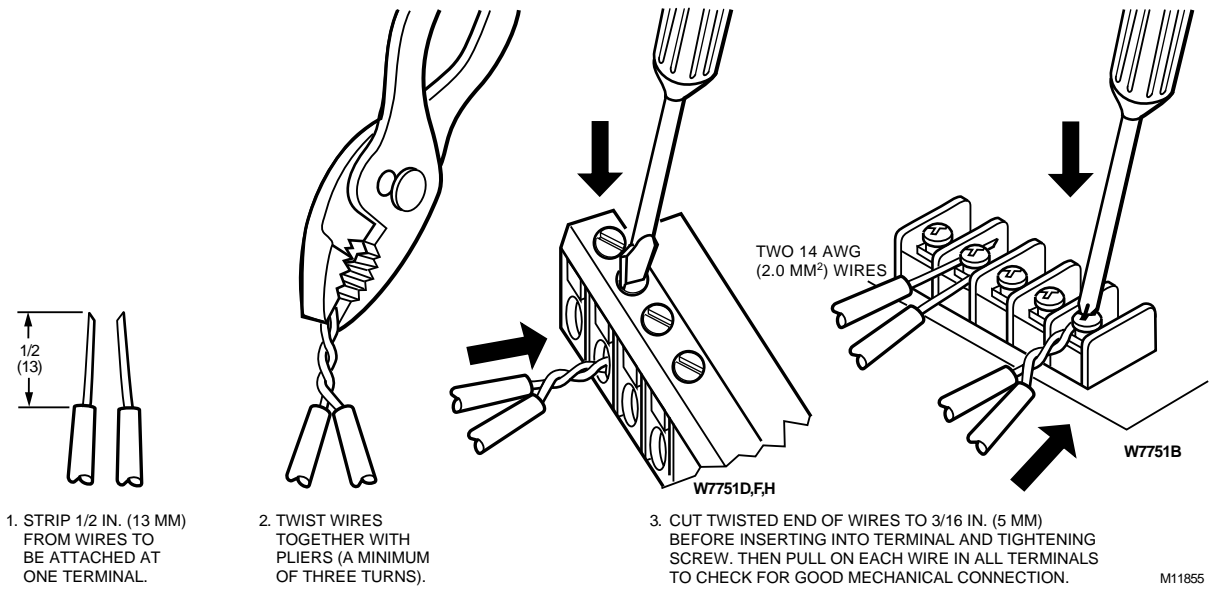

Fig. 58. Attaching two or more wires at terminal blocks.
**NOTE:** For field wiring, when two or more wires are to be attached to the same connector block terminal, be sure to twist them together. Deviation from this rule can result in improper electrical contact. See Fig. 58.
(For Note 2 instructions, refer to Fig. 58.)